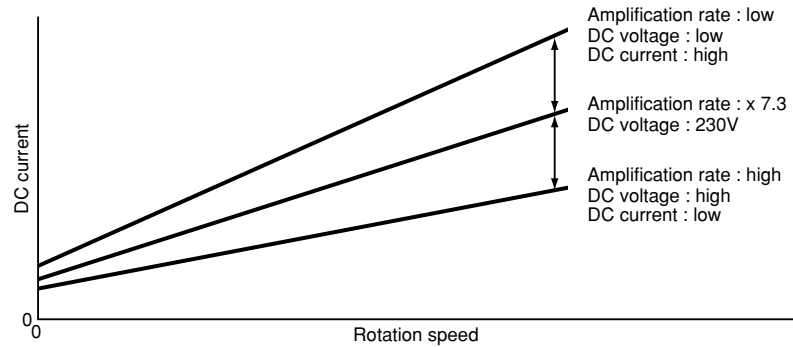

Fig. 8-5
- Voltage generated from DC current flowing to detection resistor is balanced by resistor R245 and C220, then input to pin ⑤ of IC4. IC4 composes non-inverting amplifies, combined with peripheral components.
- As shown in Fig. 8-5, a value varying according to rotation speed is programmed in microcomputer: When DC current value exceeds this set value, overload control is set. Control of compressor motor is the same as that in external judgment.